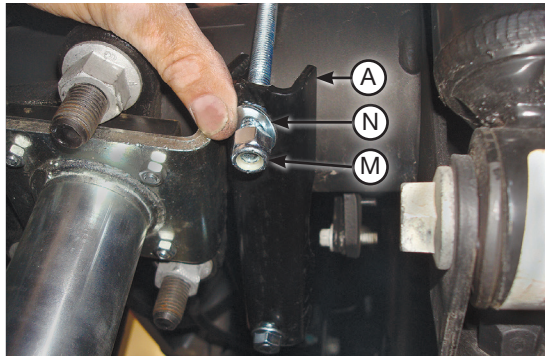

fig. D.16
3. Set the lower clamp bars (A) over the carriage bolts located under the axle (Fig. D.16). Attach with the 3/8" flat washers (N) and 3/8"-16 nylon lock nuts (M). Evenly torque the lower clamp bar hardware to 16 lb.-ft. (22Nm). Finish tightening the U-bolt hardware previously snugged by torquing to 10 lb.-ft. (14Nm).